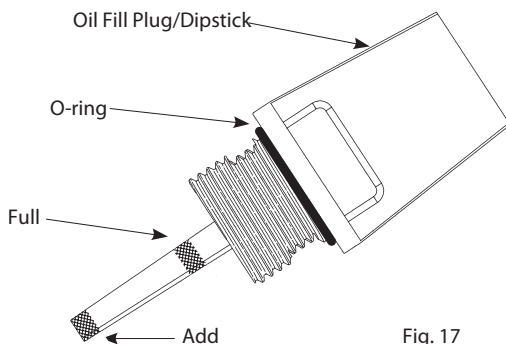

Fig. 17
5. Remove the oil fill plug/dipstick and check the oil level. Oil should be between the add and fill marks. (Fig. 17)
NOTE: Make sure the O-Ring is in place on the oil fill plug/dipstick when checking and changing the oil (Fig. 17).
NOTE: The bottle measure approximately 1.7 fluid oz/50 mL. Check the level with the dipstick. If the level is low, add a small amount of oil and recheck. Do not over fill (Fig. 17).